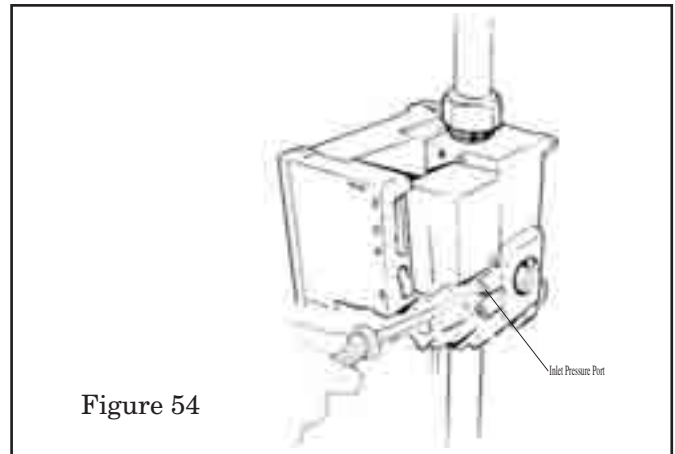

Figure 54
4. Open inlet pressure port located in gas valve. To open valve, use a screwdriver. See Figure 54.